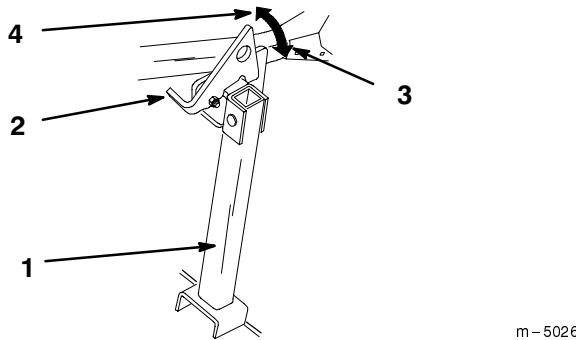

Figure 17
6. Drive onto stand. Stop when latch drops over tab into locked position (Fig. 17). Once onto stand, engage parking brake. Shut off engine.
1. Raise latch to unlocked position (Fig. 17).